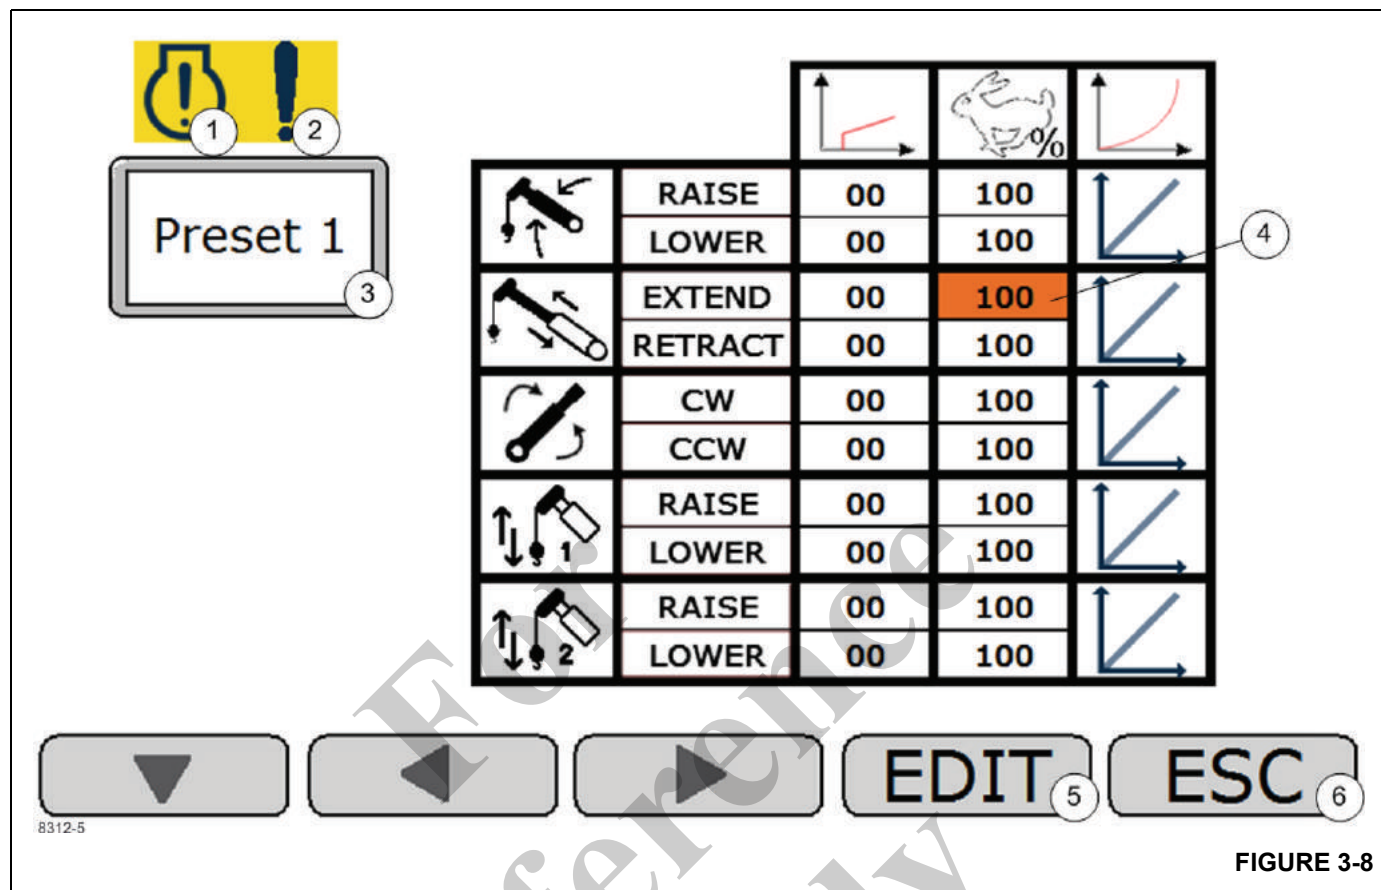

FIGURE 3-8
Modify Presets Screen 2 (Figure 3-8)
Engine Fault Active Indicator (1) (Figure 3-8)